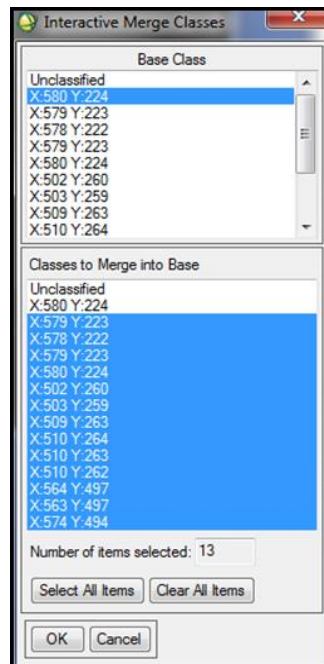

Figure 5.8f
- In the Interactive Merge Classes window (Figure 5.8f).